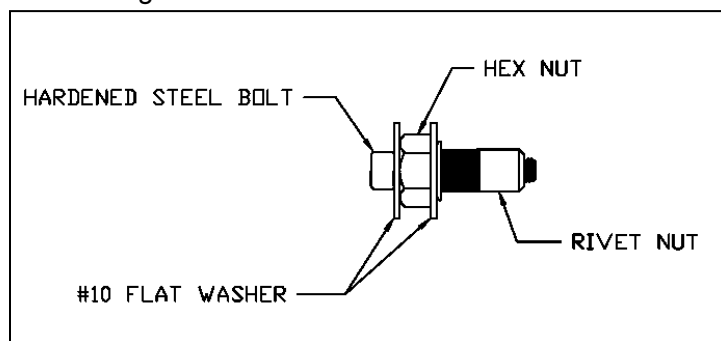

Figure 2
8. Place a #10 flat washer, hex nut, another #10 flat washer and rivet nut on black hardened steel bolt, shown in **Figure 2**, and place in drilled hole. Use a **7/16"** wrench to hold nut and **5/32"** hex bit to turn the hardened steel bolt until rivet nut is tightened down. (**Do not install with drill, use hand tools only**). Remove hardened steel bolt, flat washers and hex nut. Repeat in all four holes.